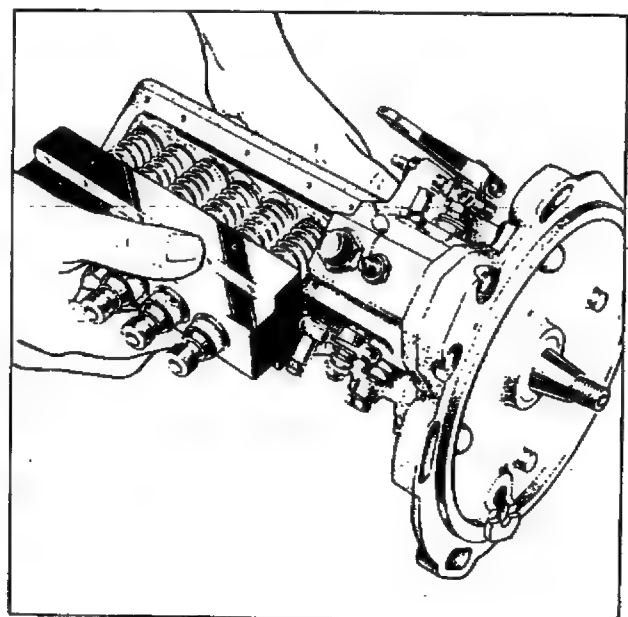

Fig. 19
4. Remove the screws securing the pump body to the housing evenly and lay the pump at an angle to the bench as shown in Fig. 19. Remove the pump body in an arc as shown, so that the plunger arms are disengaged from the control forks.